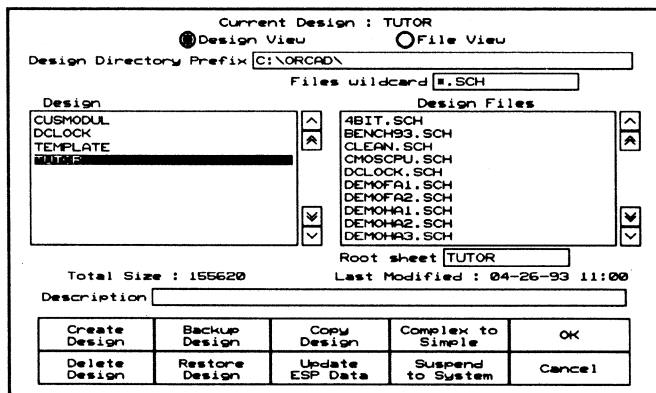

Figure 3-2. Design Management Tools screen, Design View.
2. Select **Execute**. The dialog box shown in figure 3-2 displays.